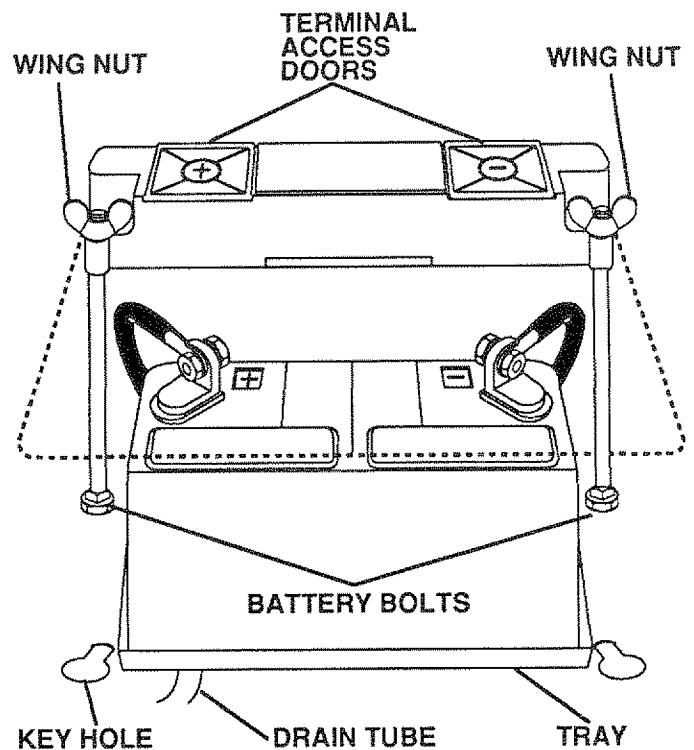

FIGURE 6
- b. Make sure drain tube (Fig. 6) is fastened to drain hole in battery tray and battery tray is positioned in hole of battery support.
- c. Place battery in plastic tray (battery terminals to front of tractor)(Fig. 6).
- f. Using the slotted hole on one side of the battery support (Fig. 6) insert one battery bolt into frame slot (head of bolt down). Fasten the battery bolt to the terminal guard using int./ext. lockwasher and wing nut. (Bolts and lockwashers, nuts and terminal guard found in bag of parts).
- g. Assemble the remaining bolt to other side of battery support and fasten terminal guard to it with remaining int./ext. lockwasher and wing nut (shown full size below). Tighten wing nuts securely by hand (Fig. 6).
NOTE: USE TERMINAL ACCESS DOORS (FIG. 6) FOR: